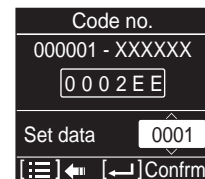

Fig. 4-12-3-9
- (6) If the  button is pressed under the display Step (3) the following display (Detailed setting-end screen) (Fig. 4-12-3-10) appears.